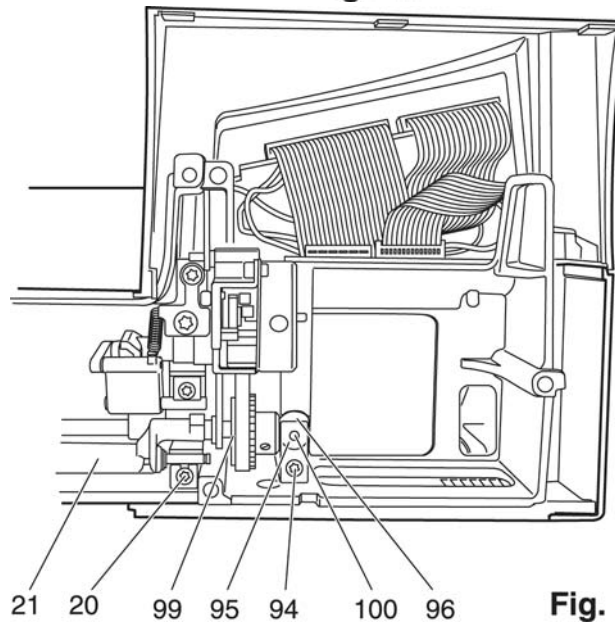

Fig. 28b
- Lift the hook-driving shaft 21 out of the lower right calotte bearing 94 as far as it will go (fig. 28b).